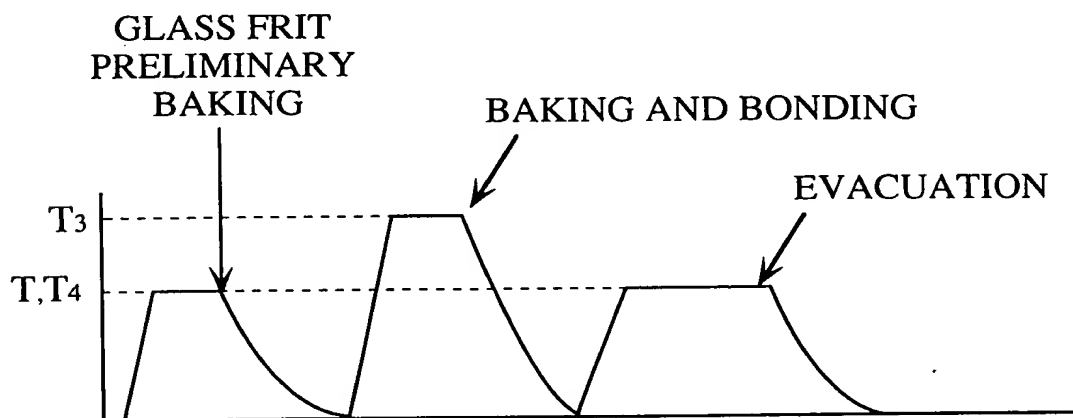

FIG. 18
FIG. 18 is a cross-sectional view of the device of FIG. 17, showing the internal components and the housing. The device is shown in a cross-sectional view, with the housing (80) and the internal components (81, 82, 83, 84, 85, 86, 90, 20, 24, 25a, 26, 10, 15) clearly visible. The device is shown in a cross-sectional view, with the housing (80) and the internal components (81, 82, 83, 84, 85, 86, 90, 20, 24, 25a, 26, 10, 15) clearly visible.